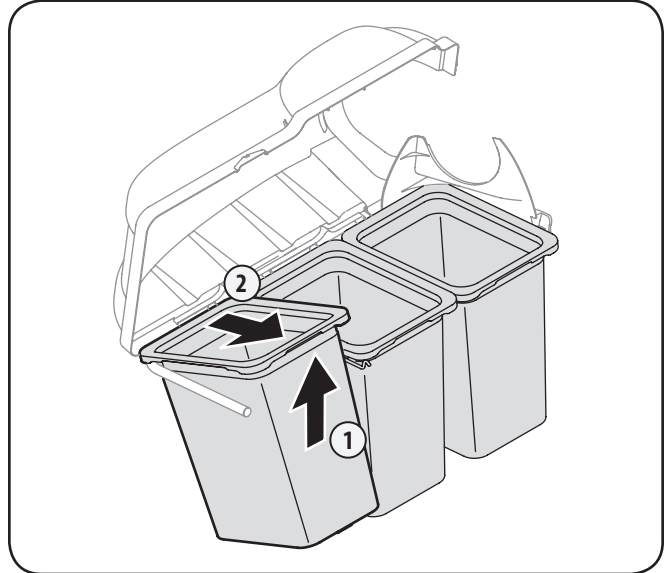

Figure 5-2
3. Remove the grass bags, as shown in Fig. 5-2, by lifting each bag up (1) and moving the bags away from the bag support assembly (2).